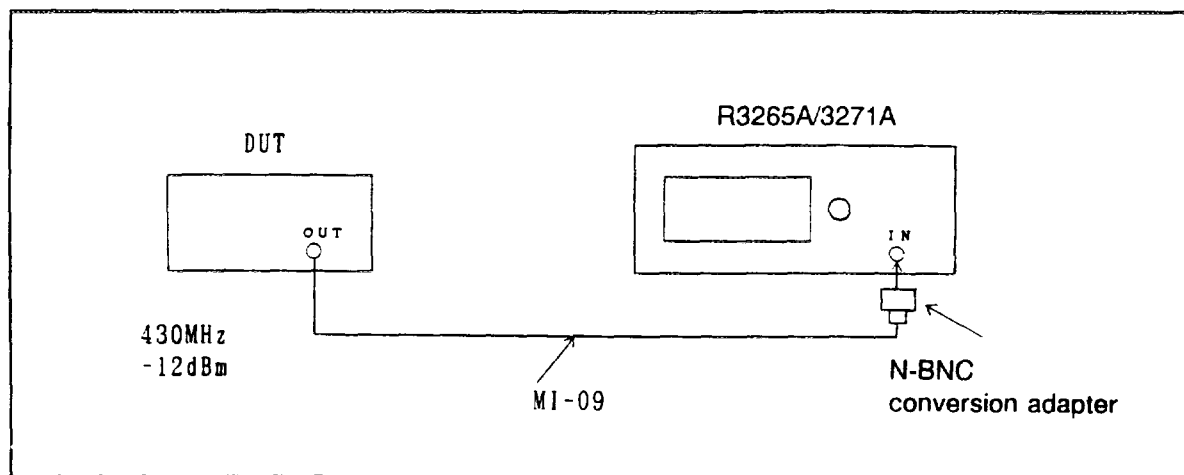

Figure 3-2 Wiring
- ② Press the PRESET key to initialize the analyzer. (Initializing returns the analyzer to its factory settings.)
- ③ Connect the analyzer to the signal source (the oscillator in this example) as shown in Figure 3-2.